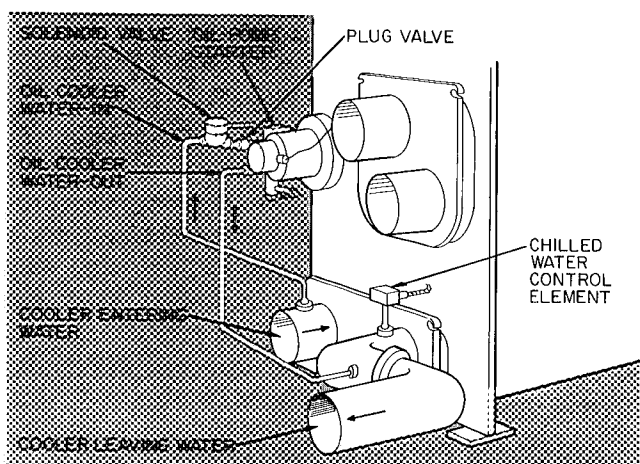

Fig. 10 — Chilled Water to Oil Cooler Piping (Typical)
Install Water Piping to Oil Cooler (Fig. 10)
A plug valve and solenoid valve subassembly (Fig. 10) has been disconnected from water-in side of oil cooler for shipping purposes. Remove shipping wrapper and reattach subassembly before adding field piping.
If chilled water is used, pipe from entering chilled water line of machine cooler to entering (IN) connection on oil cooler. Water leaving oil cooler drains into leaving water line of machine cooler (Fig. 10). Locate water drain connection downstream from chilled water control element as shown in Fig. 10 to prevent any interference with control temperature sensing.